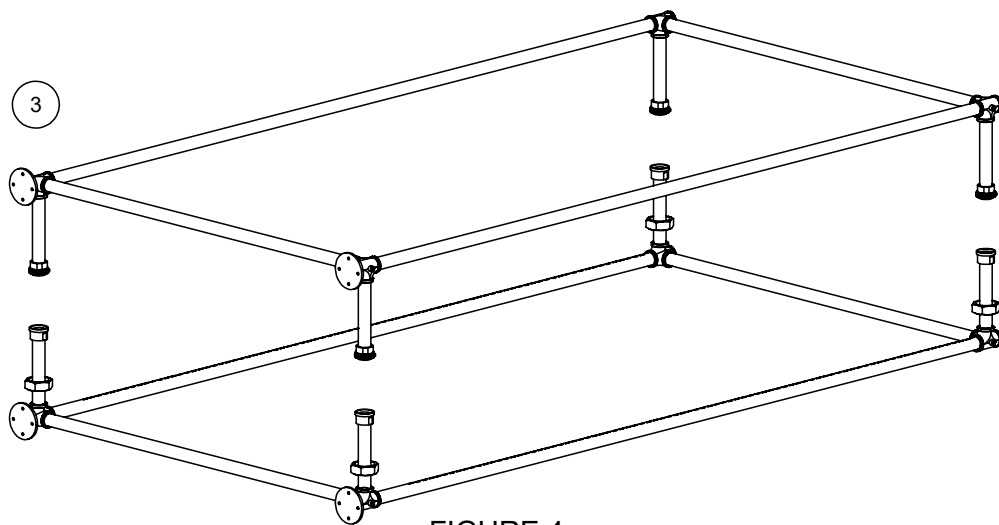

FIGURE 4
- 3 REPEAT STEPS 1 AND 2 WITH THE REMAINING CROSS BARS, UPRIGHTS, AND THREADED HALVES OF THE PIPE UNIONS. WITH AT LEAST 2 PEOPLE, JOIN THE 2 FRAME HALVES AS SEEN IN FIGURE 4. THE HALVES OF THE PIPE UNIONS SHOULD NEST TOGETHER.